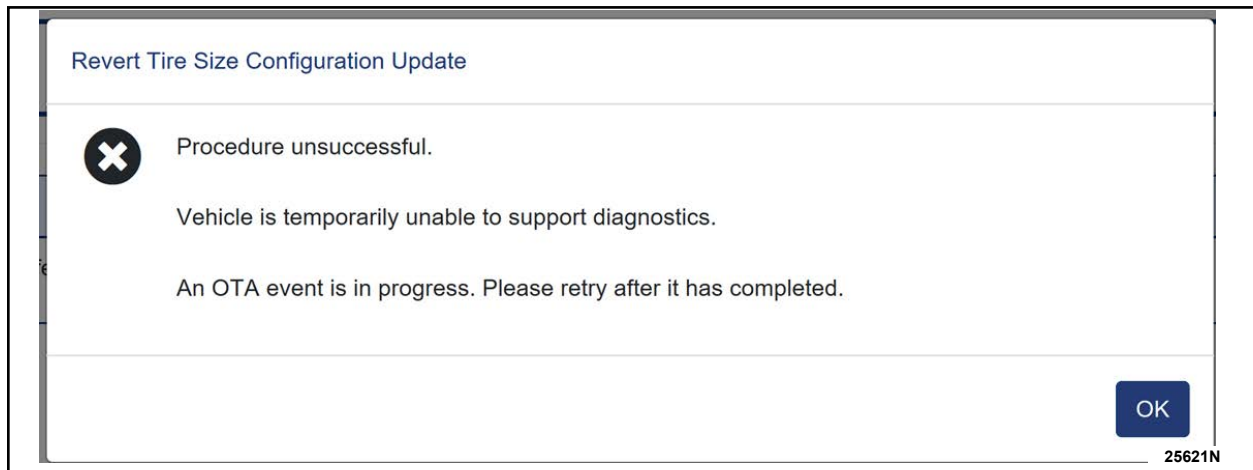

FIGURE 10
21. Was **Procedure Unsuccessful** displayed on the screen as shown in Figure 10?